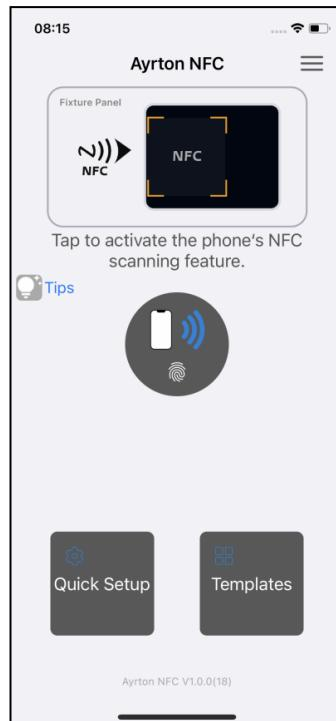

Figure 1
- 1) Open the Ayrton NFC App (as shown in Figure 1), tap the button to activate NFC scan (Figure 2), place the NFC scan area of your mobile phone close to the NFC tag area of the fixture, it will show the setting and configuration page after reading successfully (Figure 3). If the reading fails, it can be reread, or the device can be powered on again (Figure 4).